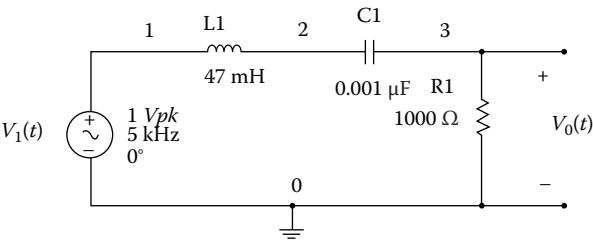

FIGURE P4.9
Problem 4.9 For the circuit shown in Figure P4.9, (1) use the Network Analyzer to plot the magnitude and phase characteristics. (2) Determine the resonant frequency and bandwidth of the circuit. (3) Compare the measured values with the theoretically calculated values for the resonant frequency and the bandwidth of the circuit.